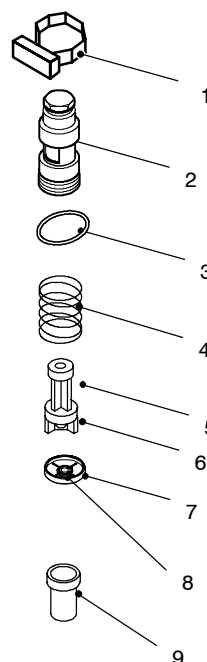

Fig. 56
When the flow rate through the d.h.w. circuit reaches about 2,5 litres/min', the float 6 (Fig. 56) is drawn towards the right.
13.2 Nomenclature and location of parts (Fig. 56)
- 3 Unscrew the body 2 (Fig. 56) and extract the flow switch group.
- 4 To remove the filter from the flow switch group separate the filter 9 from the threaded ring (Fig. 56) by levering it.
- 3 Unscrew the threaded ring 7 (Fig. 56) and remove it from the body 2.